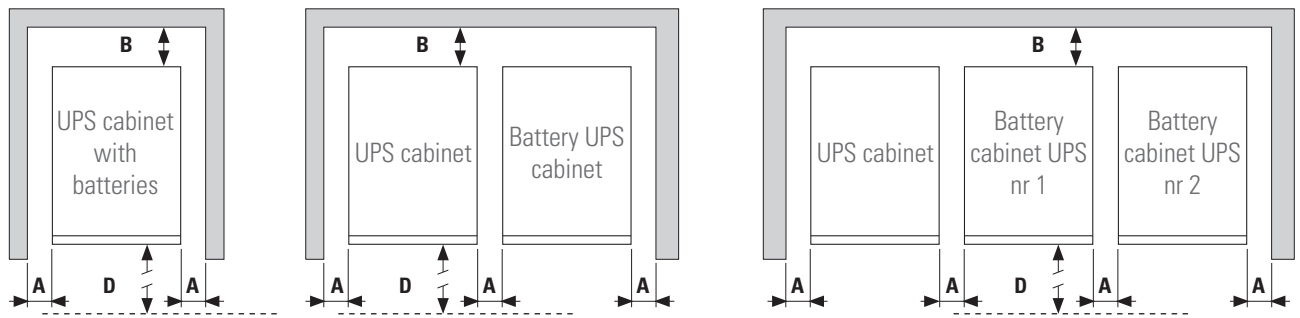

Fig. 14. Minimum distances for a correct UPS cooling.
- As an example, Fig. 14 shows the typical case depending on the model. The equipment based on one single phase (UPS with batteries fitted in) and UPS with the batteries in a separate case or extended back up times.